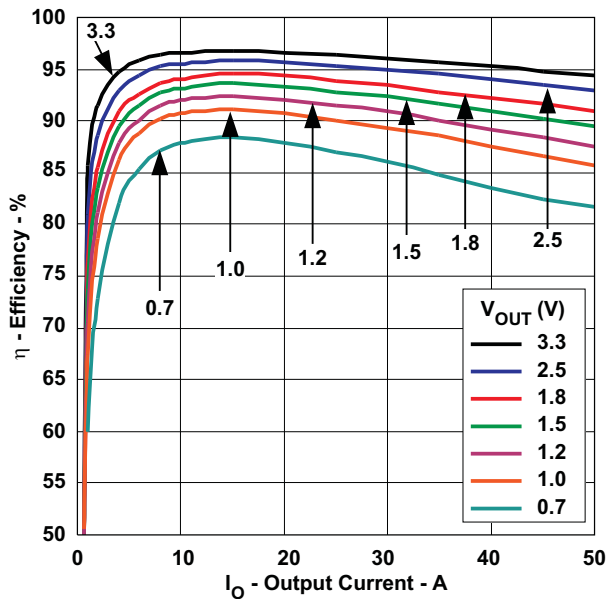
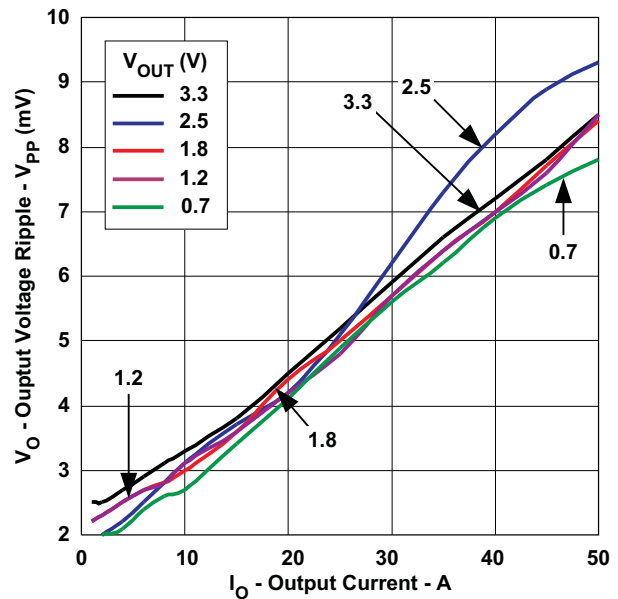
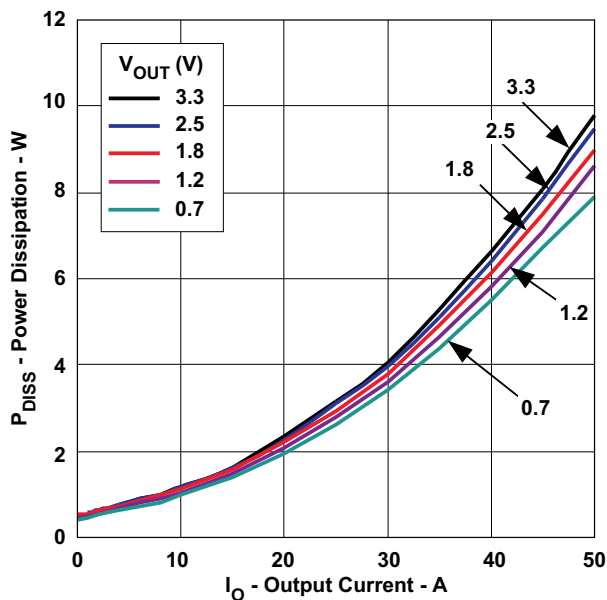

Figure 6. Efficiency vs. Output Current
Figure 7. Output Ripple vs. Output Current
Figure 8. Power Dissipation vs. Output Current
(13) The electrical characteristic data has been developed from actual products tested at 25°C. This data is considered typical for the converter. Applies to Figure 6, Figure 7, and Figure 8.